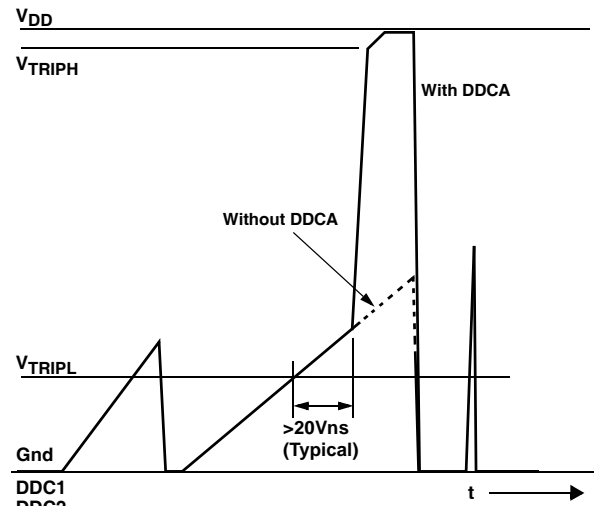

FIGURE 10. NOISE SUPPRESSION. BOOST CURRENT APPLIED WHEN INPUT SIGNAL EXCEEDS 20Vns (TYPICAL)
- Measured as area under triangular waveform above  $V_{TRIPL}$ , with time as base and  $V_{IN}$  as height (See Figure 10).